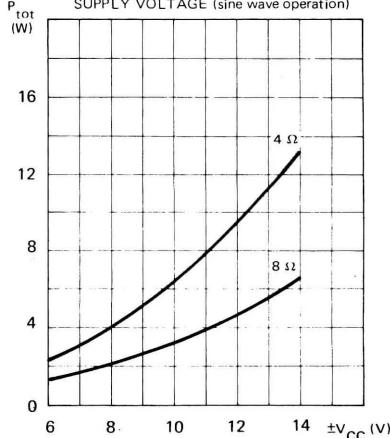

FIG. 14 : SCHEMA D'UN AMPLIFICATEUR TYPE AVEC UNE ALIMENTATION DOUBLE
(see Fig. 14)
BANDES PASSANTES (voir Fig. 14)
P.C. BOARD AND COMPONENT LAYOUT FOR THE CIRCUIT OF FIG. 14